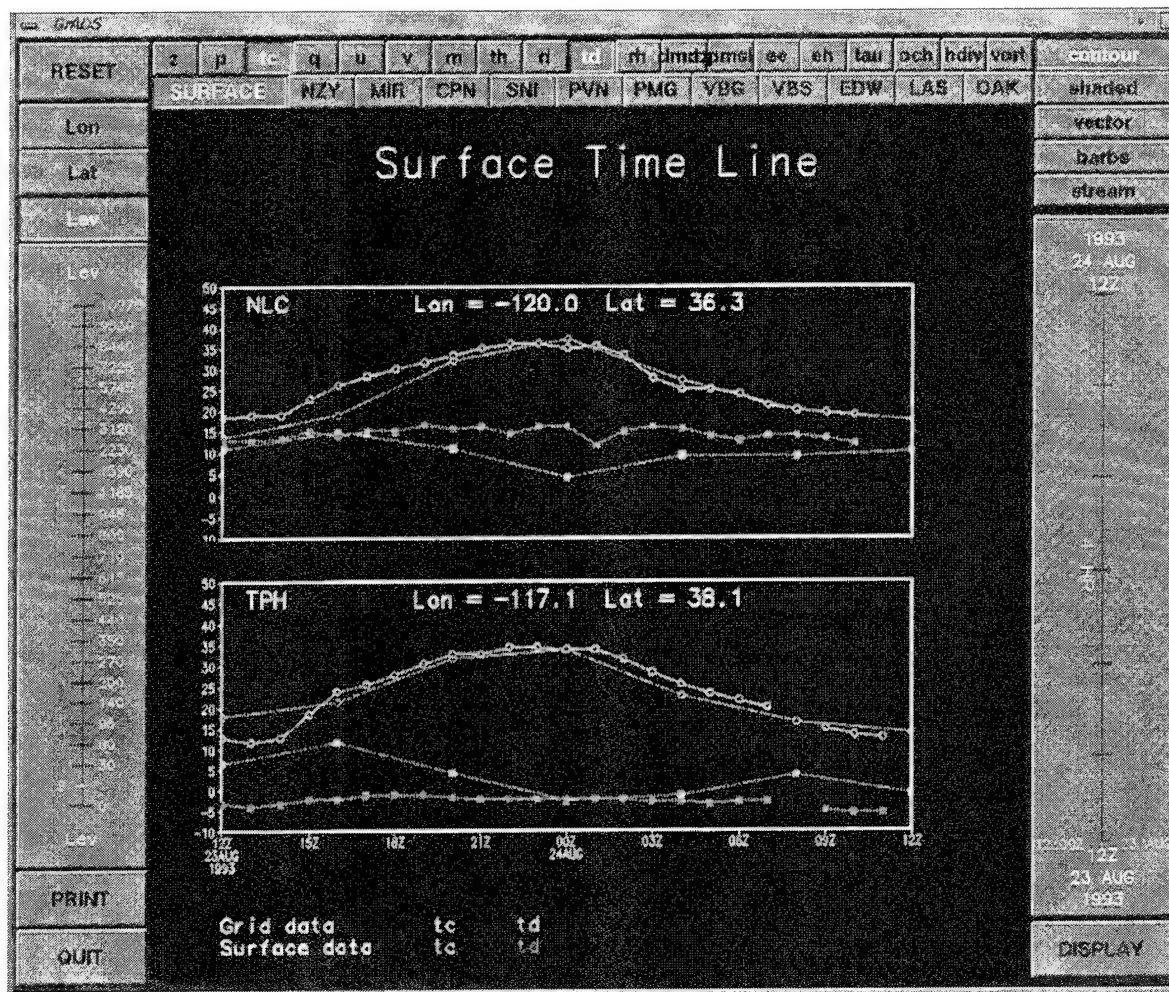

Figure 11. Typical surface time lines.
6.4 Surface Time Line Display. When the desired surface stations have been selected, clicking the middle mouse button outside the X-Y map display will cause the display of stacked time lines, one for each selected surface station (Fig. 11). Variable selections can be changed and new station time lines can be displayed by clicking on new variables followed by an immediate click with the middle mouse button in the central clear area of the window.